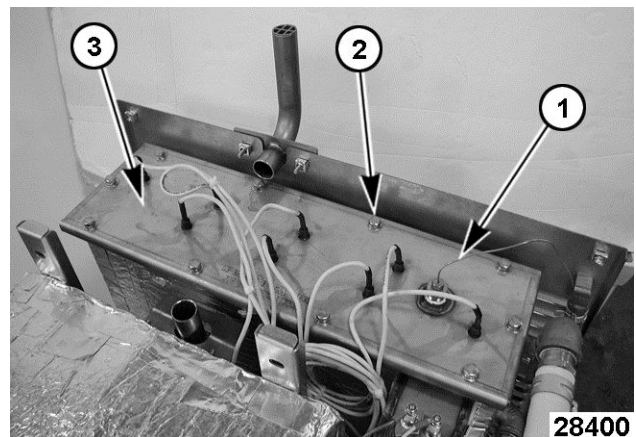

Fig. 51
5. Position high-limit thermostat capillary tube [1] Fig. 51 to facilitate heating element removal. Avoid creating sharp bends or kinks in the capillary tube.
6. Remove screws and lock washers [2] Fig. 51 (qty.10) securing heating element [3] Fig. 51 to tank.